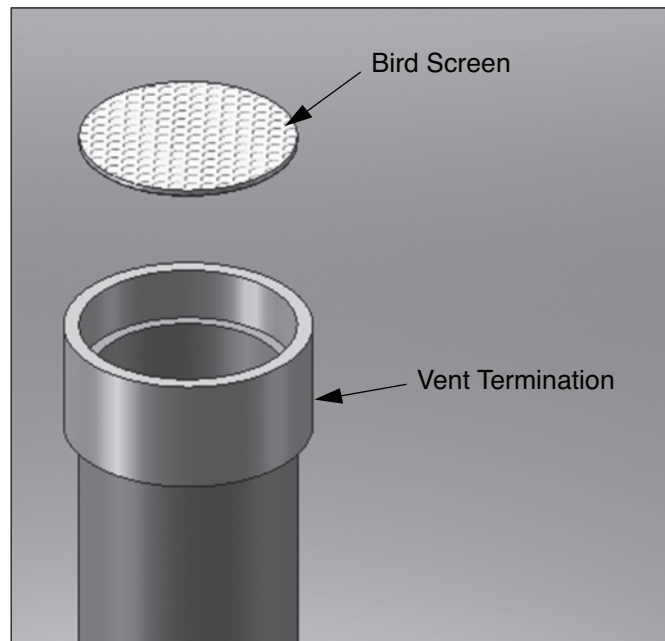

Fig. 4: Vertical Vent Bird Screen Installation
1. The vent and combustion air terminations must include a factory supplied "bird screen" installed as shown in Figs. 4, 5 & 6 on page 14.